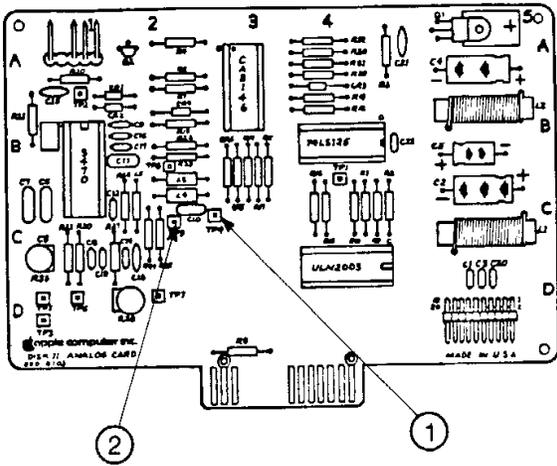

FIGURE 13
11. Connect the ground clip to TP4 and the scope probe to TP9. (Figure 13, #'s 1 and 2).